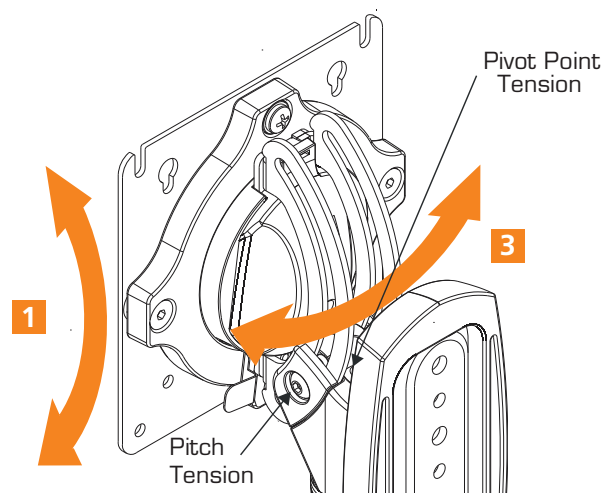

Figure 1-22 How to change the orientation of the Lingua RAD mount
1. Adjust pitch to desired tilt position. (See Figure 1-22)
2. Adjust pitch tension screw to change the adjustment tension. (See Figure 1-22)
3. Adjust pivot position as desired. (See Figure 1-22)
4. Use 3/16" hex key (Q) to adjust pivot point tension screws to change pivot adjustment tension. (See Figure 1-22)